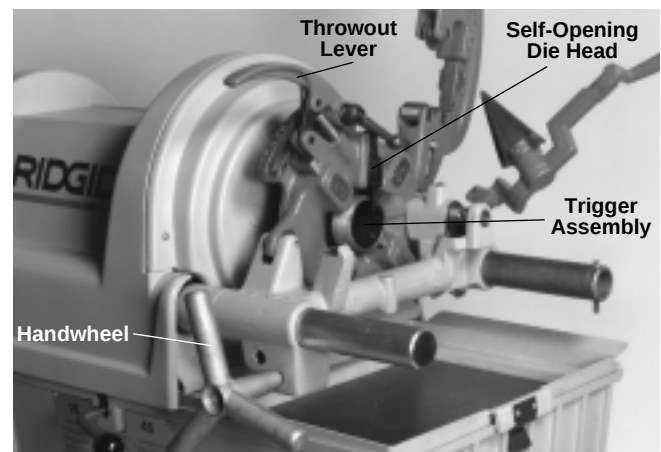

Figure 10 – Threading Pipe with No. 815A Die Head
5. Turn carriage handwheel to bring dies against end of pipe. Slight pressure on handwheel will start dies (*Figure 10*).
The No. 815A Self-Opening Die Head (*Figure 10*) for right hand threads requires four sets of dies to thread pipe ranging from $\frac{1}{8}$ " through 2". One set of dies is required for each of the following pipe size ranges: ($\frac{1}{8}$ " and $\frac{1}{4}$ " and $\frac{3}{8}$ "), ($\frac{1}{2}$ " and $\frac{3}{4}$ ") and (1" through 2"). Bolt threading requires a separate set of dies for each bolt size.